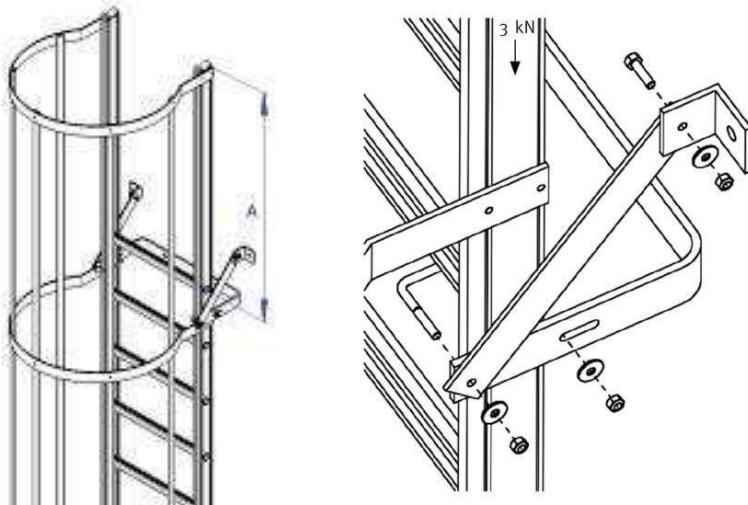
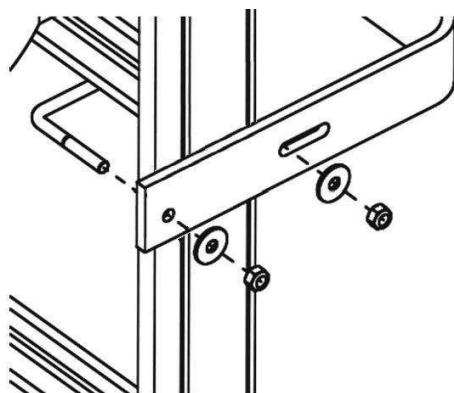

Figure 1
Figure 2
- Choose the right fixing materials. When calculating the strength of the anchorage, consider a force of 3 kN in each style, lying in the direction of the centreline (see Figure 1). The anchorage and its connections should be capable of supporting a load of 3000N per post. A maximum of 4 anchorages may be considered. taken to contribute to this burden
- Fit the wall support set(s) and any suspension support set(s) to the ladder sections (see figures 1 and 2). Make sure that the wall support is mounted directly under the rung as much as possible. The maximum distance between two wall supports is 2 metres.
Any "floating" ladder that does not rest on a foundation must be mounted with at least 1 suspension support set as shown in Figure 1. A suspension support set consists of a wall support set as shown in figure 2, with 2 angled brace strips and 2 angled lines for fixing to the wall behind. Mount the suspension support set at the bottom of the exit section (A).